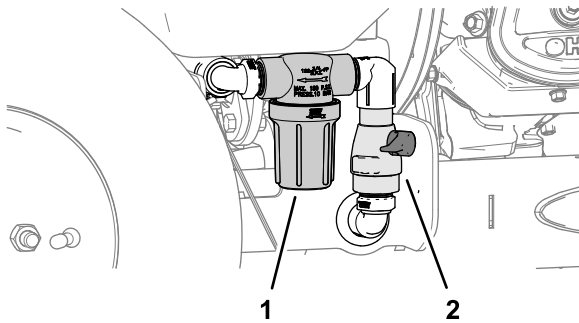

Figure 64
2. Rotate the handle of the pump-shutoff valve 90° counterclockwise to the CLOSE position (Figure 64).
3. Align a drain pan under the strainer (Figure 64).
9. Rotate the handle of the pump-shutoff valve 90° clockwise to the OPEN position (Figure 64).